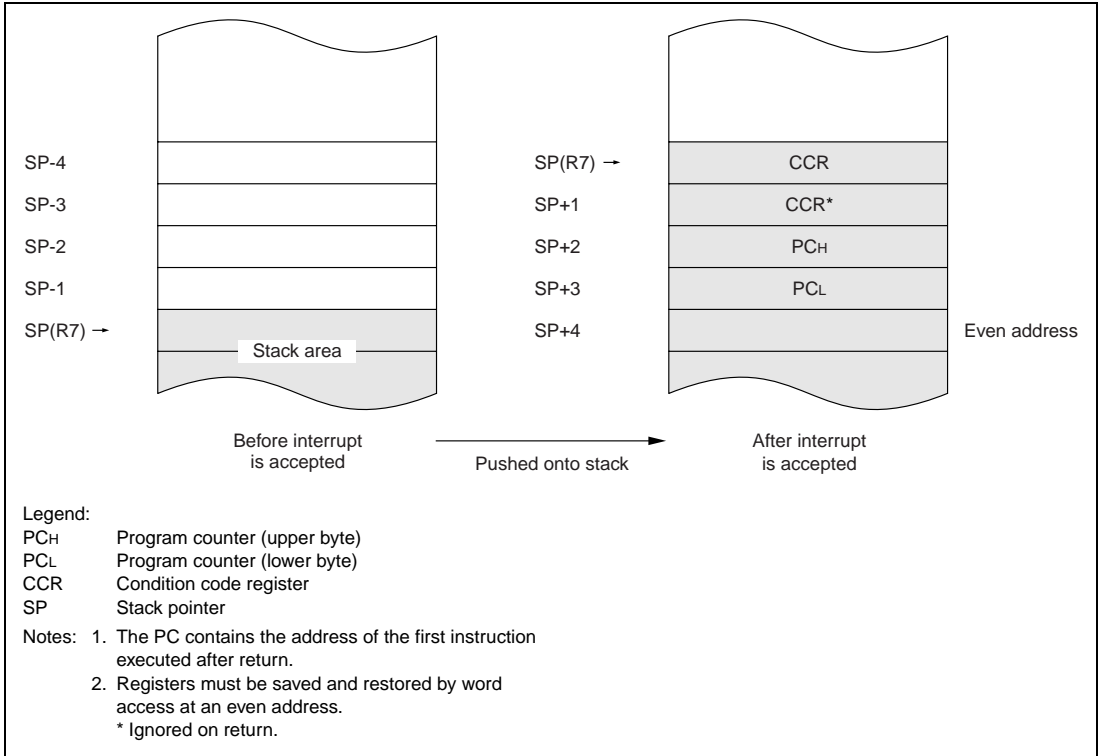

Figure 4.5 Usage of Stack in Interrupt Handling
- (1) An interrupt request is sent to the interrupt controller when an NMI interrupt occurs, and when an interrupt occurs on an IRQ input line or in an on-chip supporting module provided the enable bit of that interrupt is set to “1.”
- (2) The interrupt controller checks the I bit in the CCR and accepts the interrupt request if the I bit is cleared to “0.” If the I bit is set to “1” only NMI requests are accepted; other interrupt requests remain pending.
- (3) Among all accepted interrupt requests, the interrupt controller selects the request with the highest priority and passes it to the CPU. Other interrupt requests remain pending.
- (4) When it receives the interrupt request, the CPU waits until completion of the current instruction or hardware exception-handling sequence, then starts the hardware exception-handling sequence for the interrupt and latches the interrupt vector number.
- (5) In the hardware exception-handling sequence, the CPU first pushes the PC and CCR onto the stack. See figure 4.5. The stacked PC indicates the address of the first instruction that will be executed on return from the software interrupt-handling routine.
- (6) Next the I bit in the CCR is set to “1,” masking all further interrupts except NMI.
- (7) The vector address corresponding to the vector number is generated, the vector table entry at this vector address is loaded into the program counter, and execution branches to the software interrupt-handling routine at the address indicated by that entry.